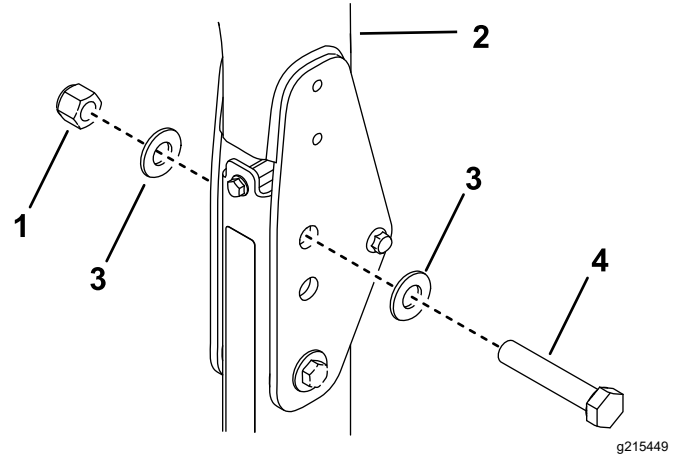

Figure 37
- Insert a washer (13/16 x 1-1/2 inches) onto each bolt (3/4 x 4 inches) as shown in Figure 37.
- In the holes where the pins were removed, install the bolts and washers (Figure 37).
- Install another washer onto each bolt and secure with nut (3/4 inch) as shown in Figure 37.